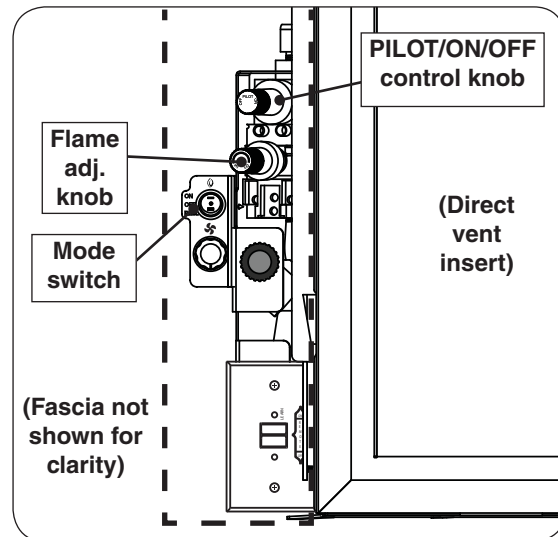
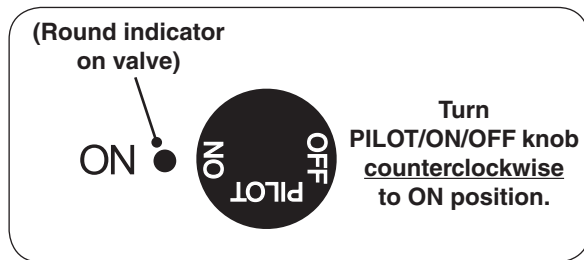
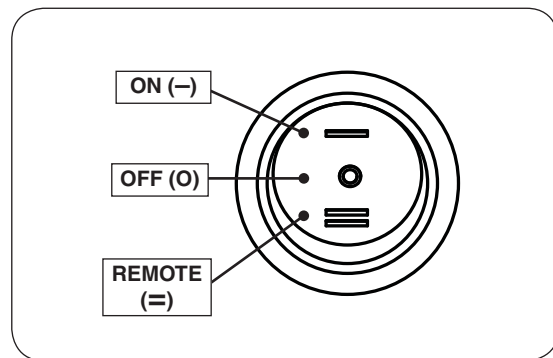
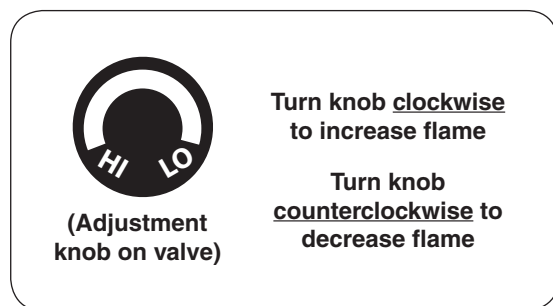

Fig. 41-1 Control box (left side of unit)
Fig. 41-2 Control knob detail (ON)
Fig. 41-3 Mode switch
Fig. 41-4 Adjustment knob detail
1. Ensure the pilot is burning. Open the surround door. Locate the PILOT/ON/OFF control knob on the control box (see Fig. 41-1). Turn the control knob counterclockwise to **ON** (see Fig. 41-2).
2. Locate the 3-position mode switch on the control box (see Fig. 41-1). Press the switch up to the **ON (—)** position (see Fig. 41-3). The ignition sequence will begin.
**WARNING: If the burner fails to light within 5 seconds, press the mode switch to the OFF (O) position. Allow five (5) minutes for any gas in the unit to dissipate, then repeat step 2 above. IF YOU SMELL GAS, SEE STEP (B) AT THE BEGINNING OF THE LIGHTING INSTRUCTIONS.**
The flame height may be adjusted via the adjustment knob on the valve. Open the surround door (use heat-resistant gloves, unit will be HOT). Turn the HI/LO control knob clockwise to **HI** to increase the flame height. Turn the control knob counterclockwise to **LO** to decrease the flame height. See Fig. 41-1 and Fig. 41-4.